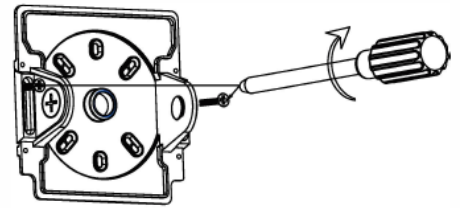

Fig. 7
4. Screw the bottom plate on the wall (fig. 7 - see reverse)